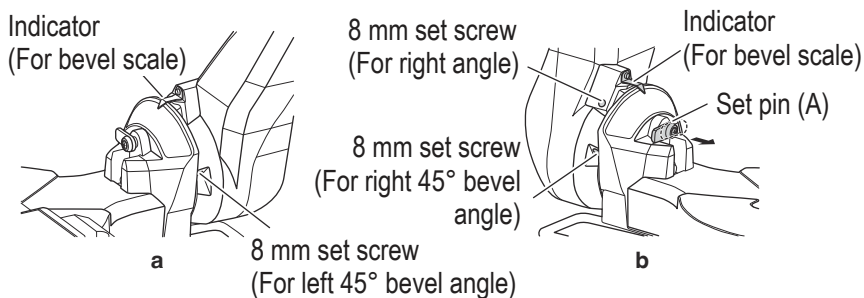
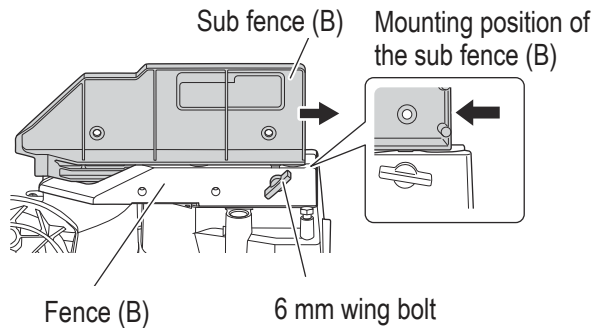

Fig. 9
Fig. 13
When changing the adjustment, change the height of the 8 mm set screws by turning them. (**Fig. 9-a, Fig. 9-b**)
When changing the bevel angle to the left 45°, loosen the 6 mm wing bolt shown in **Fig. 13 on page 64**, then slide the sub fence (B) outward and incline the motor head to the left. To change the bevel angle to the right at 45°, move the sub fence (A) outward and loosen the bevel lock handle, then pull out the set pin (A) toward the front, and tilt the motor head to the right. (**Fig. 9-b**)
When adjusting the motor head to 0°, always return the set pin (A) to its initial position as shown in **Fig. 9-b**.
3. Confirmation for use of sub fence (B) (Fig. 13)
In the case of direct angle cutting and right bevel angle cutting, slide inward to the position where the sub fence (B) hits, and secure it with 6 mm wing bolt. (as shown in Fig. 13)